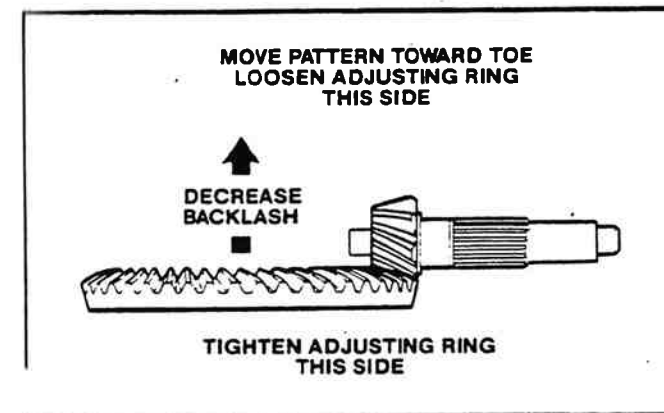

Figure 2-95. Moving Contact Pattern Toward Top Of Ring Gear Teeth.
a. Decrease backlash to move the contact patterns toward the toe of the ring gear teeth (Figure 2-95).